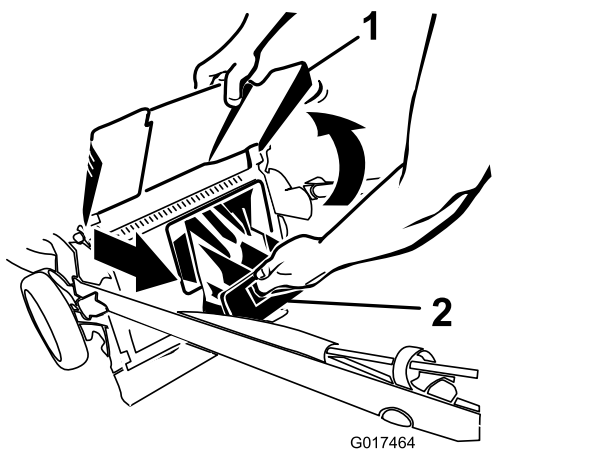

Figure 23
2. Raise and hold up the discharge deflector (Figure 23).
3. Pull out the rear-discharge plug (Figure 23).